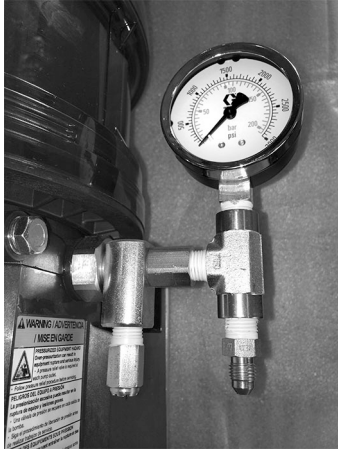

FIG. 37
5. Install the pressure gauge fitting, pressure gauge and outlet fitting in the pressure relief valve as shown in FIG. 37.